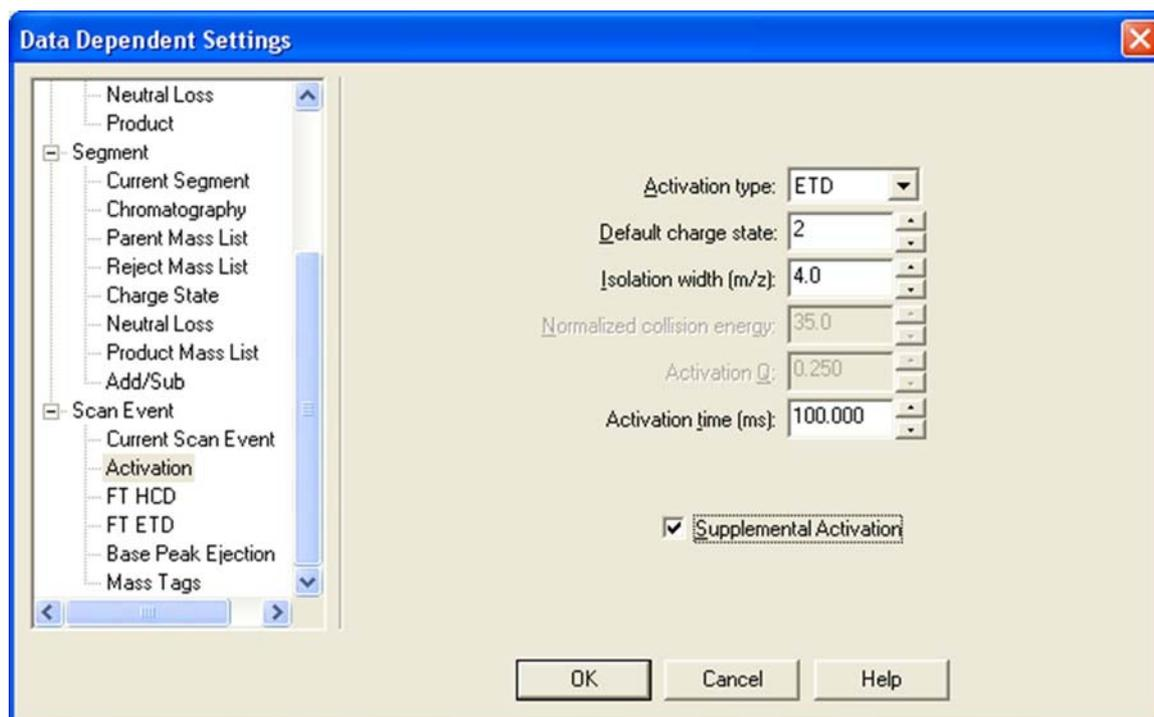

Figure 8-35. Data Dependent Settings dialog box in MS Detector Setup
9. Click **Settings**. A Data Dependent Settings dialog box appears. See Figure 8-35 on page 8-37.